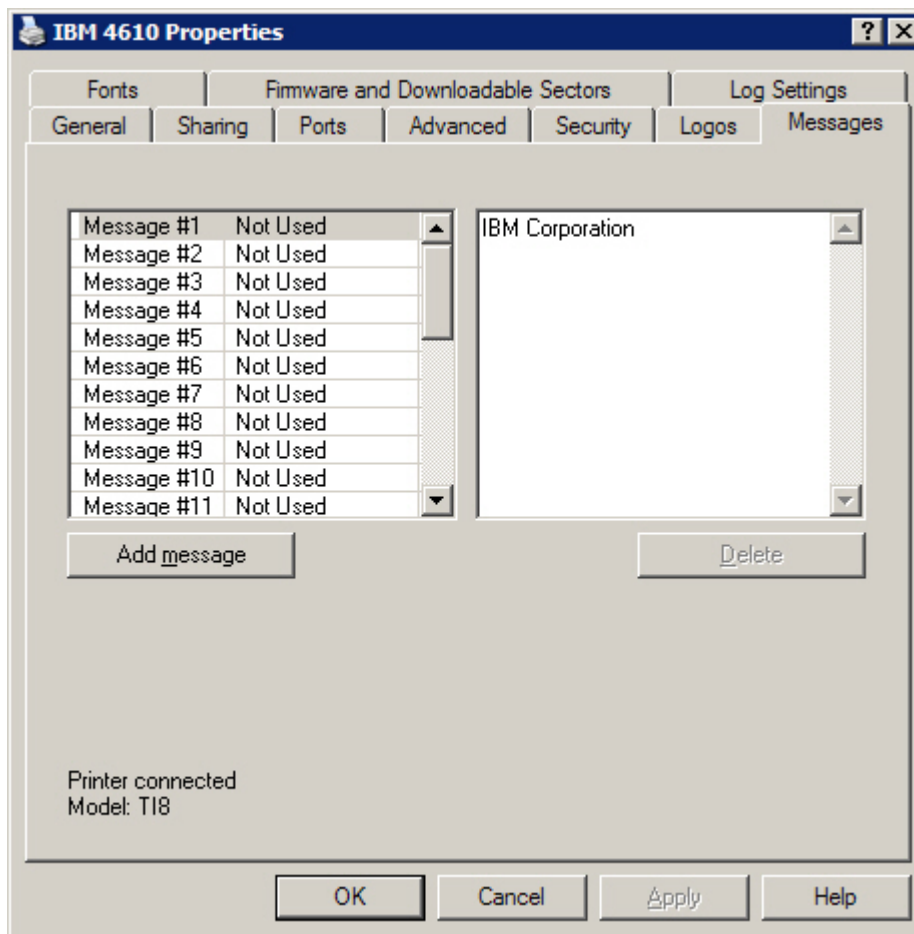

Figure 20. Creating a message
5. Type your message in the box to the right of the Message slots list (see Figure 20). The maximum number of characters in a message is 255.